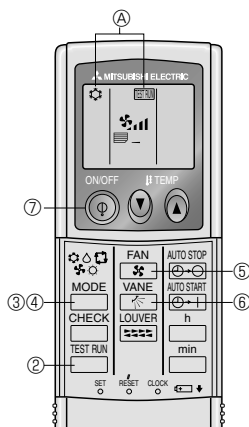

Fig. 7-2
7.2.2. Using wireless remote controller (Fig. 7-2)
- ① Turn on the power to the unit at least 12 hours before the test run.
- ② Press the button twice continuously. (Start this operation from the status of remote controller display turned off.)
- ③ Press the button to activate COOL mode, then check whether cool air is blown out from the unit.
- ④ Press the button to activate HEAT mode, then check whether warm air is blown out from the unit.
- ⑤ Press the button and check whether fan speed changes.
- ⑥ Press the button and check whether the auto vane operates properly.
- ⑦ Press the ON/OFF button to stop the test run.